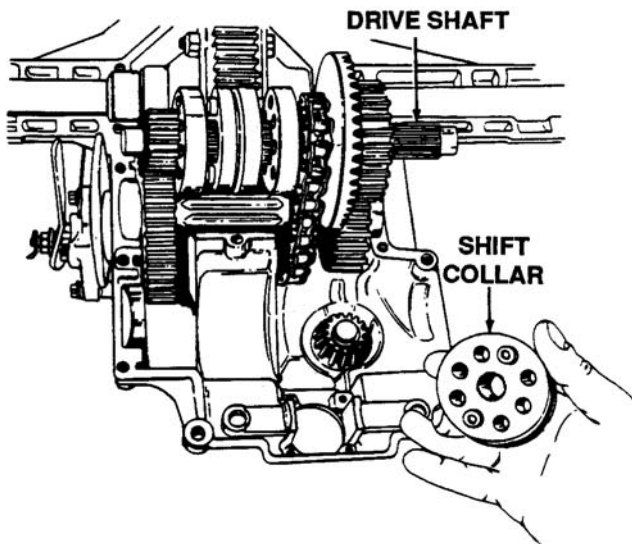

Figure 5-36. Removal of Shift Collar
10. Remove the shift collar assembly from the drive shaft. Remove the shift ring plugs from the back of the shift collar. Inspect the position of the retaining rings and check the ends of the pins to see if they are rounded off or broken. Replace if necessary. See Figure 5-36.